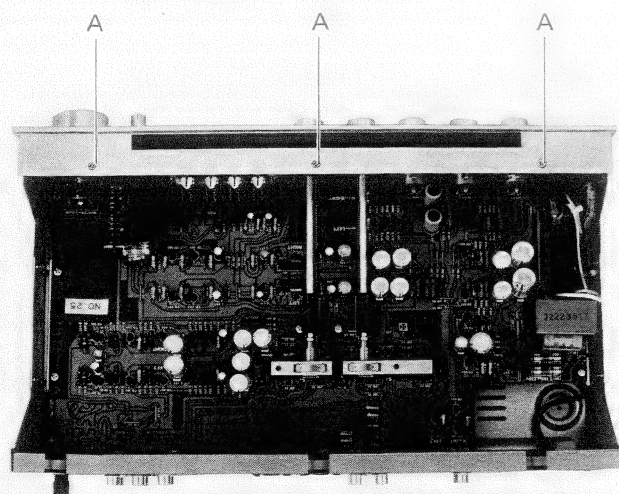

Figure 10
Remove six screws (A) from top and bottom as shown in Figure 10 and 11, and the panel can be removed with push buttons.